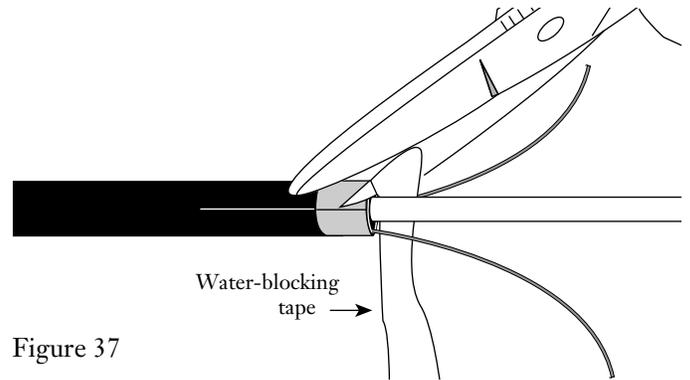

Figure 37
7.23 Cut away the water-blocking tape, if present, flush at the tape marks with scissors (Figure 37).